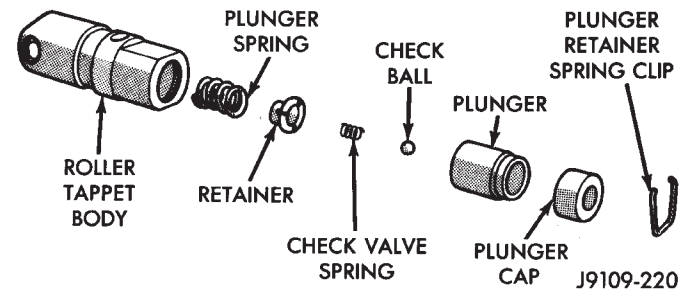

Fig. 27 Hydraulic Roller Tappet Assembly
DISASSEMBLY (FIG. 27)
(1) Clean all tappet parts in a solvent that will remove all varnish and carbon.
(2) Replace tappets that are unfit for further service with new assemblies.
(3) If plunger shows signs of scoring or wear and valve is pitted, or if valve seat on end of plunger indicates any condition that would prevent valve from seating, install a new tappet assembly.
(4) Assemble tappets (Fig. 27).